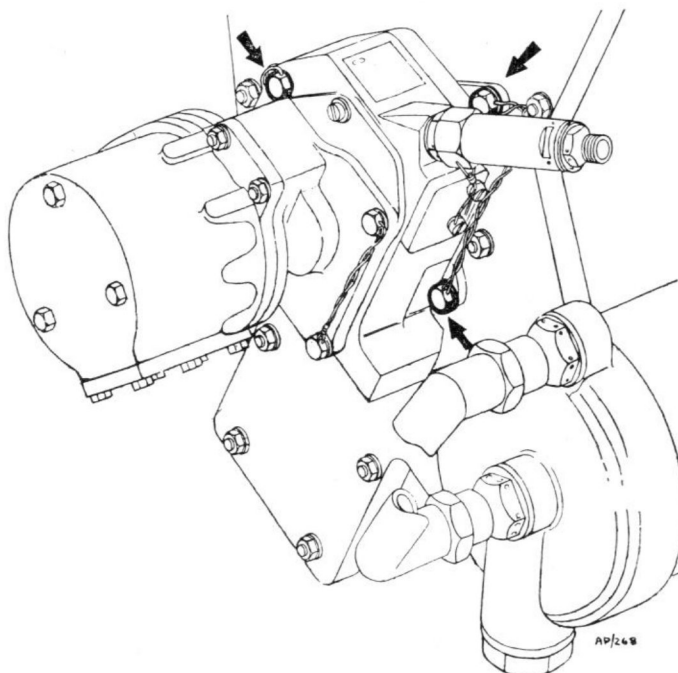

Fig. 7. Fuel pump securing bolts (Pre Mod. M182)
(6) With the fuel pump adequately supported and the locking wire severed, release the single long set-bolt and plain washer which passes through the starboard side of the fuel pump body; then using a 'crow's foot' 'tee' handled spanner, release the two short set-bolts and plain washers securing the port side of the pump (fig. 7).
(7) Withdraw the fuel pump, governor and temperature control assembly from the port side of the power plant, taking care not to damage the gasket between the fuel pump and the engine auxiliaries mounting plate. If the fuel pump drive coupling centre piece is not withdrawn on the pump drive coupling, it should be removed from the oil pump driving gear dog.